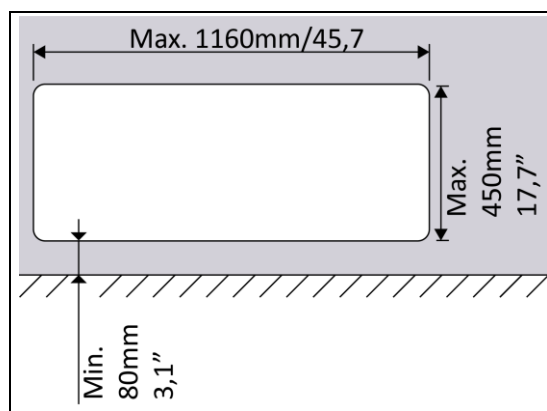

Figure 4-1: Cut-out dimensions.
1. Mark de cut-out (Figure 4-1) on the wall: